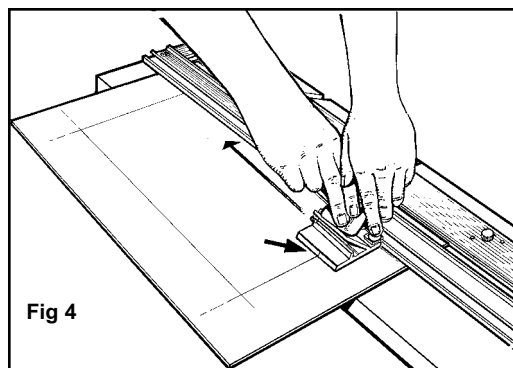

Fig 4
8. Depress the Anti-Crawl Pin and firmly pivot the Blade Holder down into the mat. **Fig . 4**